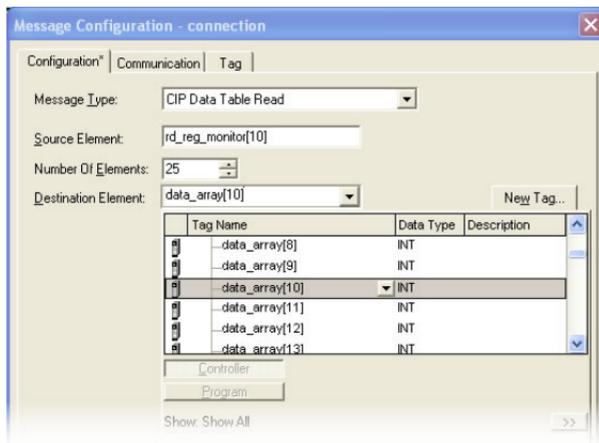

Figure 43: Selecting the Destination Element
- For the Destination Element, either directly type in “data_array[10]”, or select element #10 in the data_array tag via the drop-down box (refer to Figure 43). The destination could be any offset in the data_array tag, as long as the offset plus the Number Of Elements (25) does not exceed the tag size (62).